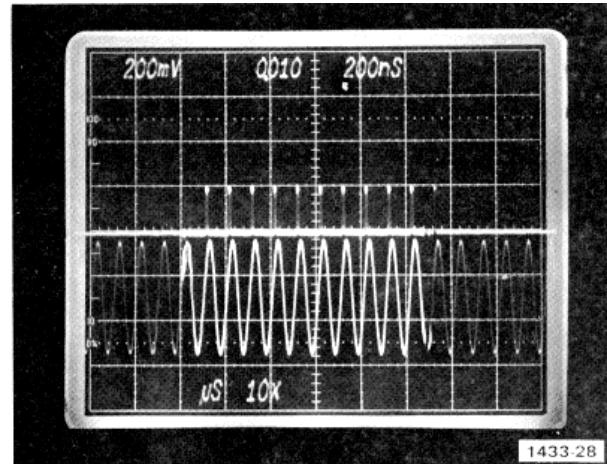

Fig. 5-9. Typical pseudo gate display when A Arm is gated.
h. Check-for displayed pseudo gate pulses occurring only during the intensified portion of the sine wave. See Fig. 5-9 for a typical pulse display.